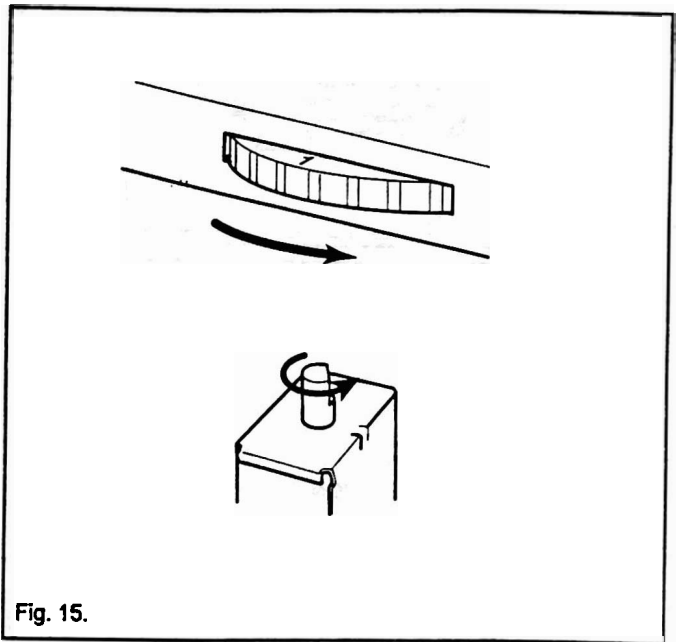

Fig. 15.
- 4.4.1. Turn the thermostat control wheel fully counterclockwise to the lowest setting (position 1). Turn the thermostat spindle fully counterclockwise. See figure 15.